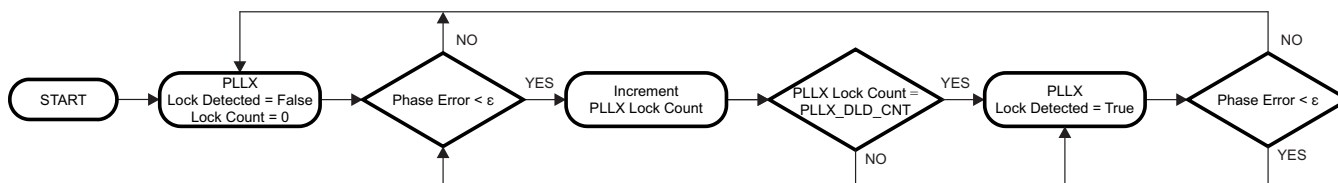

Figure 11. Digital Lock Detect Flowchart
Both PLL1 and PLL2 support digital lock detect. Digital lock detect compares the phase between the reference path (R) and the feedback path (N) of the PLL. When the time error, which is phase error, between the two signals is less than a specified window size ( $\epsilon$ ) a lock detect count increments. When the lock detect count reaches a user specified value, PLL1\_DLD\_CNT or PLL2\_DLD\_CNT, lock detect is asserted true. Once digital lock detect is true, a single phase comparison outside the specified window causes digital lock detect to be asserted false. This is illustrated in Figure 11.